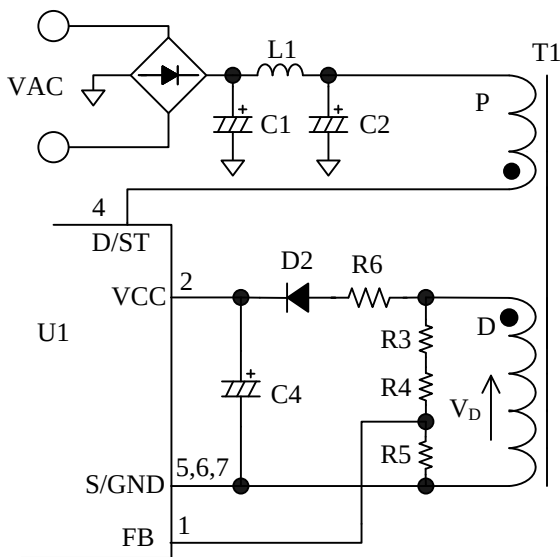
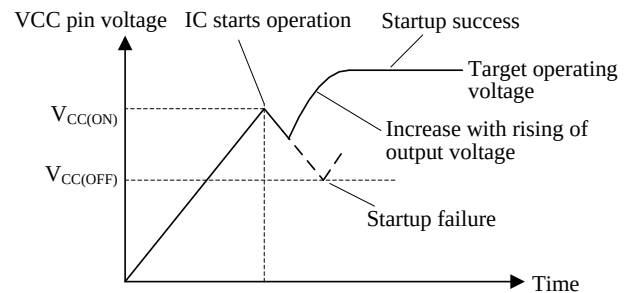

Figure 10-1 VCC pin peripheral circuit
Figure 10-3 VCC pin voltage during startup period
Figure 10-1 shows the VCC pin peripheral circuit.
Figure 10-3 shows VCC voltage behavior during the startup period. When VCC pin voltage increases to $V_{\text{CC(ON)}} = 15.0 \text{ V}$ at startup, the IC starts the operation. Then circuit current increases and VCC pin voltage decreases. Since the Operation Stop Voltage $V_{\text{CC(OFF)}} = 8.1 \text{ V}$ is low, the auxiliary winding voltage reaches to setting value before VCC pin voltage decreases to $V_{\text{CC(OFF)}}$. Thus control circuit continues the operation. The voltage from the auxiliary winding D in Figure 10-1 becomes a power source to the control circuit in operation. The approximate value of auxiliary winding voltage is about 12 V to 16 V, taking account of the winding turns of D winding so that VCC pin voltage satisfies Equation (2) within the specification of input and output voltage variation of power supply.
When VCC pin voltage reaches to $V_{CC(OFF)}$ and a startup failure occurs as shown in Figure 10-3, increase the C4 value. Since the larger capacitance causes the longer startup time of IC, it is necessary to check and adjust the startup process based on actual operation in the application.